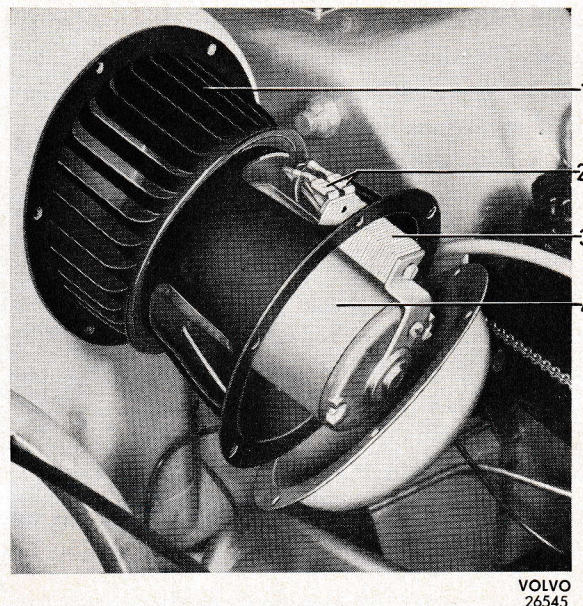

Fig. 94. Removing the heater fan motor.
2. Unscrew the six screws which hold the fan motor to the radiator casing and lift this out as shown in Fig. 94.